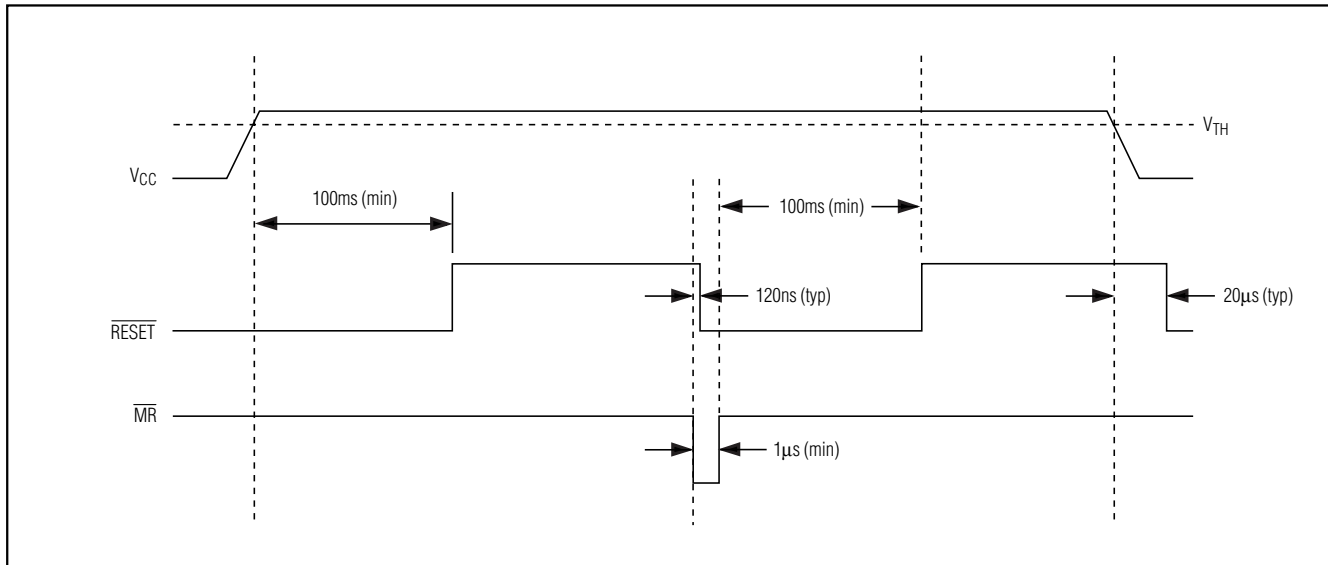

Figure 5. RESET Timing Relationship
falls below the preset threshold or when the manual reset input (MR) is asserted. The RESET output remains asserted for at least 100ms after VCC has risen above the reset threshold and MR is deasserted (Figure 5). For noisy environments, bypass VCC with a 500pF (min) capacitor to ensure correct operation.
Many  $\mu$ P-based products require manual reset capability to allow an operator or external logic circuitry to initiate a reset. The manual reset input (MR) can connect directly to a switch without an external pullup resistor or debouncing network. MR is internally pulled up to VCC and, therefore, can be left unconnected if unused. MR is designed to reject fast, negative-going transients (typically 100ns pulses), and it must be held low for a minimum of 1μs to assert the reset output (Figure 5). A 0.1μF capacitor from MR to ground provides additional noise immunity. After MR transitions from low to high, reset will remain asserted for the duration of the reset timeout period, at least 100ms.